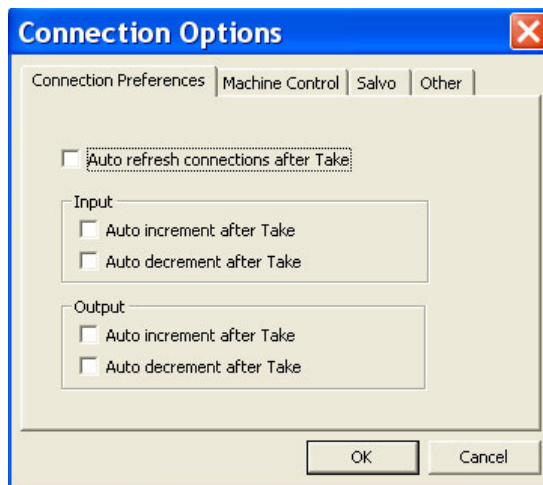

Figure 11-3. Connections Options Dialog Box with Connection Preference Tab in Front
- 3 Again from the menu bar, select 'Tools > Options'. The 'Connections Options' dialog box appears, as shown in Figure 11-3.